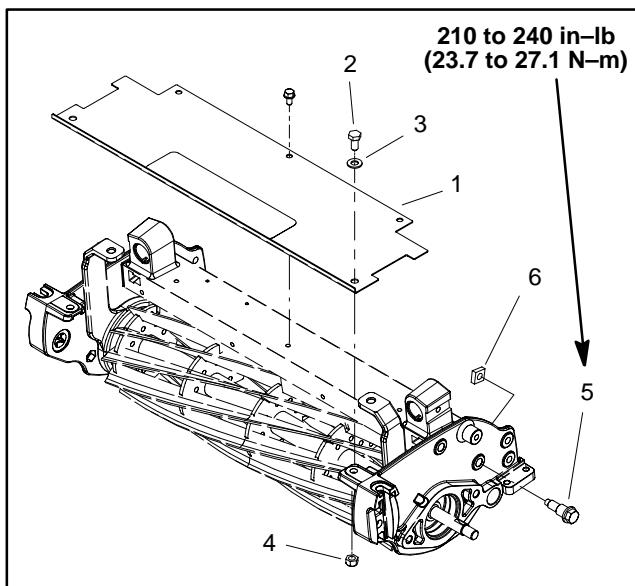

Figure 12
4. Loosen, but do not remove, two (2) cap screws and lock nuts that secure the grass shield to the side plates (Fig. 12).
5. Loosen, but do not remove, four (4) shoulder bolts that secure the side plates to the crossmember (Fig. 12).
6. Adjust the position of the side plates to parallel the rear roller and cutting reel. Then, tighten the four (4) shoulder bolts to a torque from **210 to 240 in-lb (23.7 to 27.1 N-m)**.